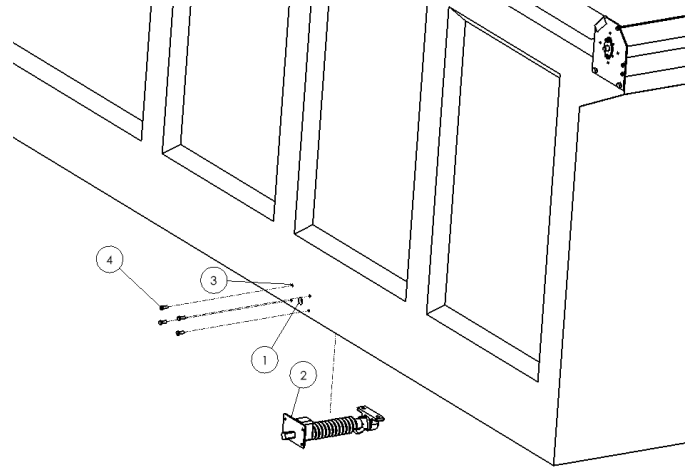

Figure 3.5
Drill a 1-1/8" hole (1) centered on the pivot point. Position the spring assembly such that the shaft lines up with the hole. Mark the positions of the 4 mounting holes (3). Drill out these holes and secure the spring assembly (2) to the dump box via the 3/8" hex bolts (4) and 3/8" hex nuts. (Figure 3.5)